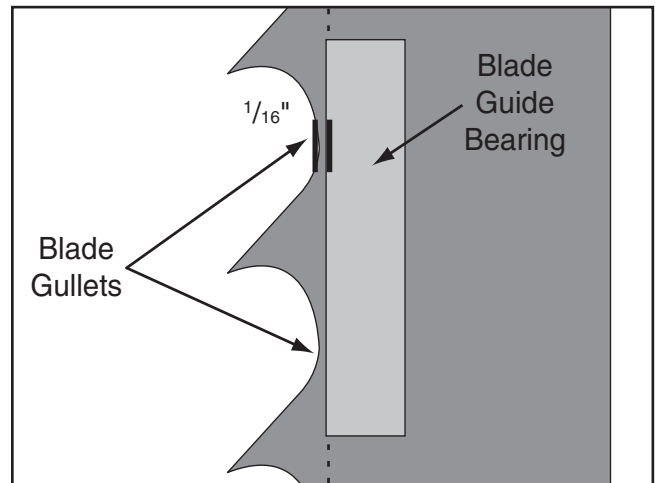

Figure 34. Lateral adjustment of blade guides.
5. Rotate the lower knurled knob to position the blade guides so the edges of the bearings are $\frac{1}{16}$ " behind the blade gullets, as illustrated in **Figure 34**.